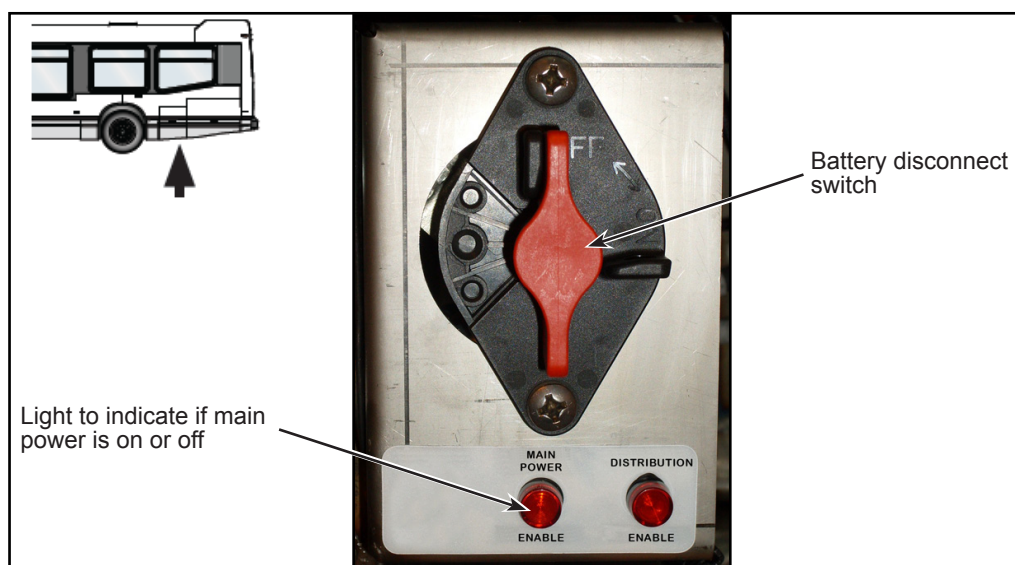

Figure 2 - Typical Battery Disconnect Switch Location
- 1.3. Set the battery disconnect switch in the battery compartment to the OFF position (see Figure 2).